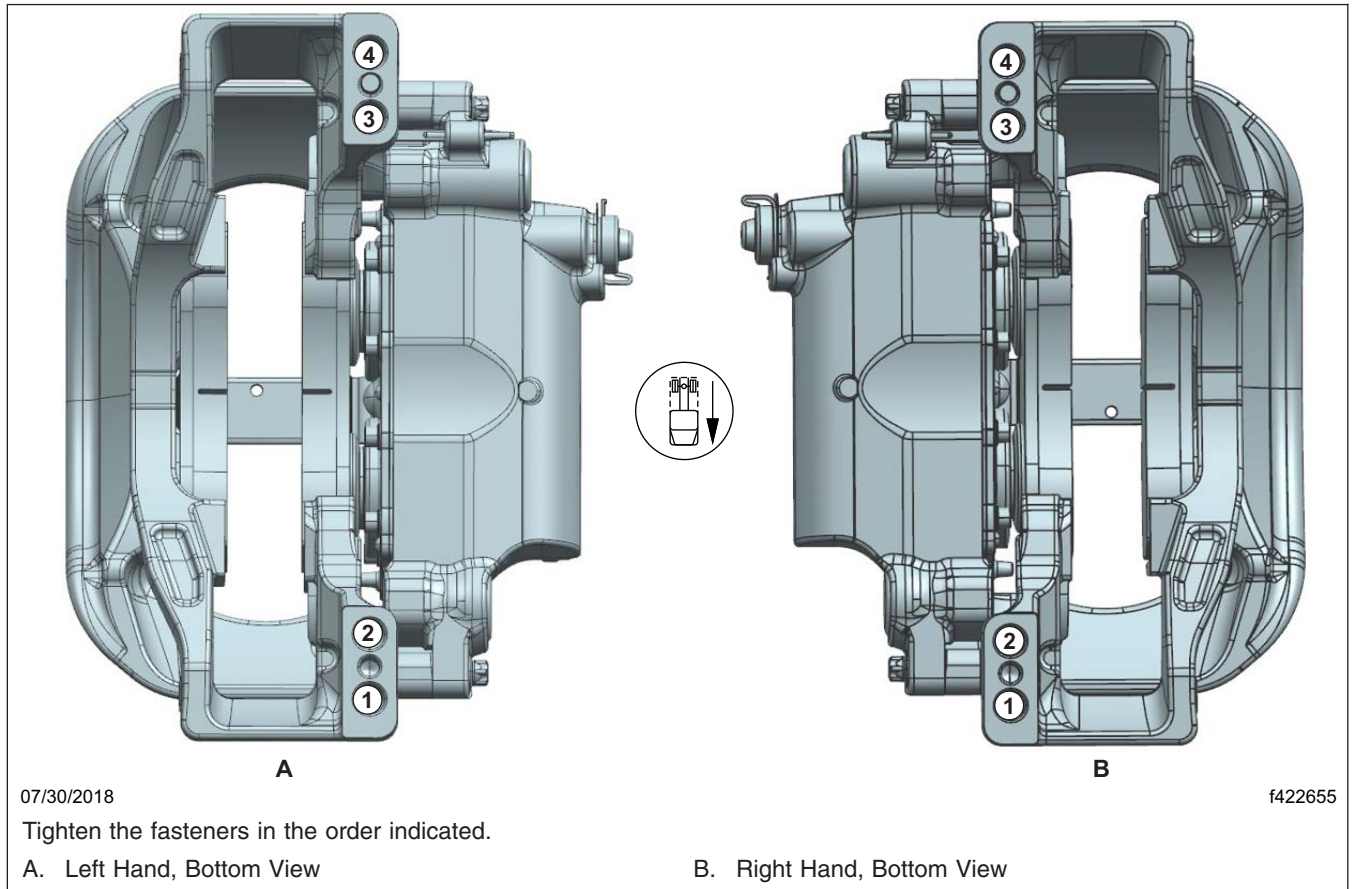

Fig. 8, Meritor Radial Mounted Caliper Tightening Pattern
4. Set a torque wrench to 350 lbf·ft (475 N·m) and tighten the caliper mounting bolts following the tightening pattern shown in **Fig. 8**. If they do not turn, no further work is needed. If they turn, take the vehicle to an authorized Freightliner dealer to have all of the caliper bolts on that wheel end replaced.